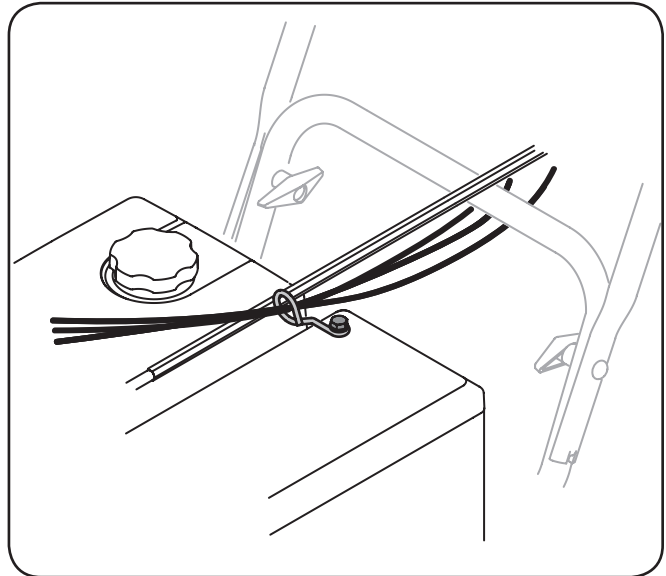

Figure 3-10
9. Check that all cables are properly routed through the cable guide on top of the engine. See Fig. 3-10.